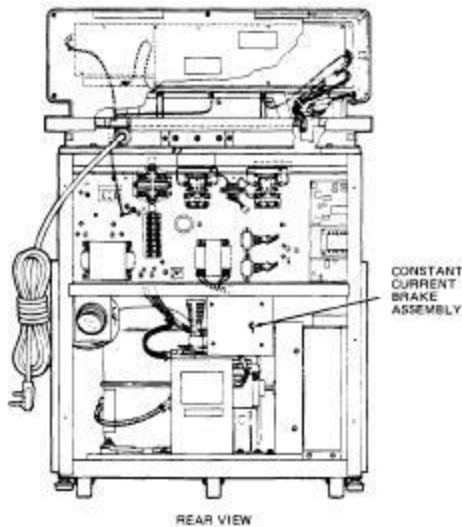

Figure 11-9. Location of Constant Current Brake Assembly
4. Remove the constant current brake assembly. Figure 11-9.